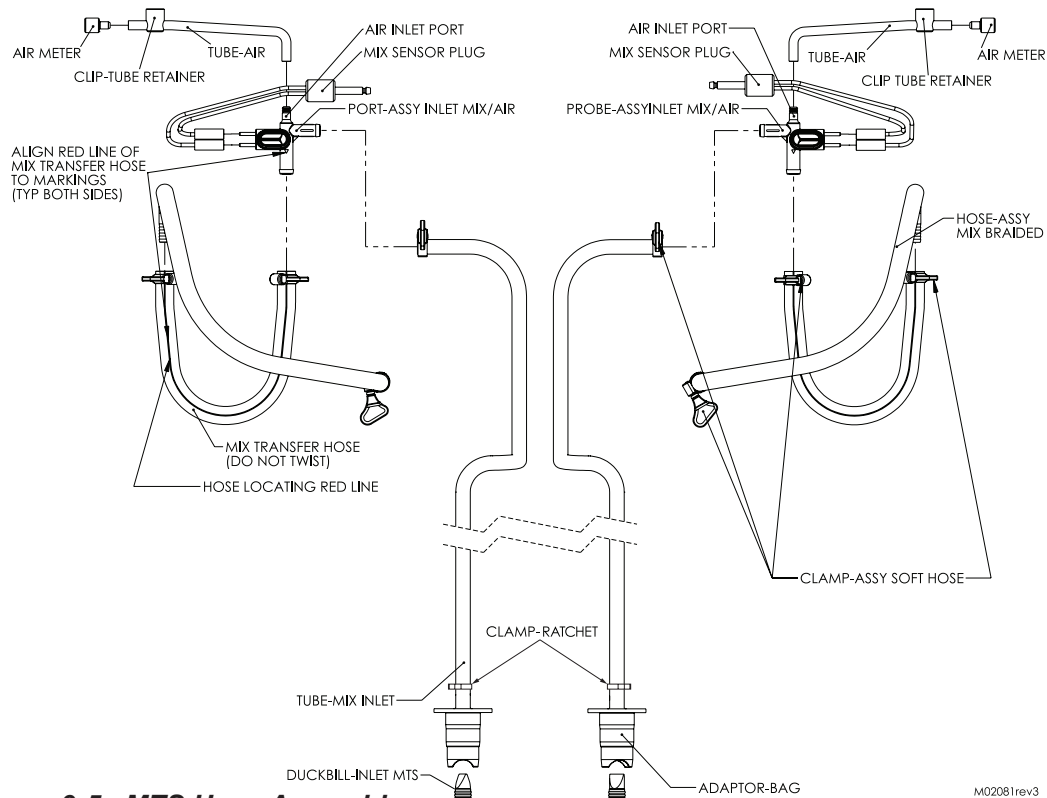

Figure 9-5 MTS Hose Assembly
12. Assemble the MTS hose assembly as shown in figures 9-5. The transfer hose has a red locating line. With the red locating line up, slide the mix transfer hose onto the port and align red line to the arrow on connector. Then slide a clamp over the hose to secure it to the port. Insert 90° elbow into transfer hose and align so elbow is 45° up from work surface, slide clamp in position. Finger tighten only! The thumbscrew must lie parallel to the mix/air inlet port.